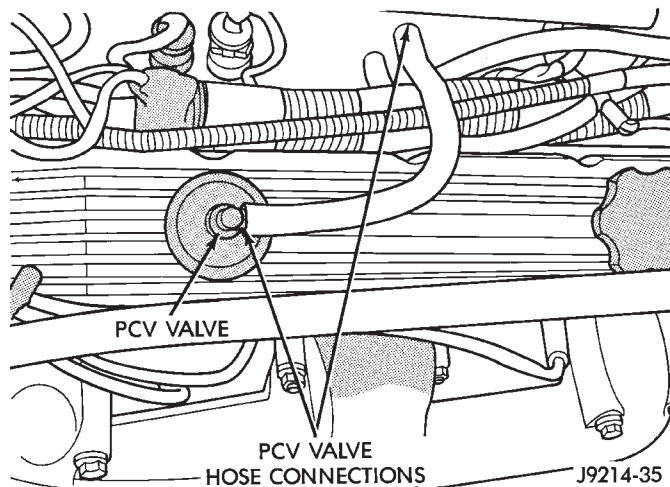

Fig. 26 PCV Valve Hose Connections—5.2L/5.9L Engines—Typical
(6) Verify that generator output wire, generator connector and ground wire are firmly connected to the generator.
(7) Inspect the system body grounds for loose or dirty connections. Refer to Group 8, Wiring for ground locations.
(8) Verify positive crankcase ventilation (PCV) valve operation. Refer to Group 25, Emission Control System for additional information. Verify PCV valve hose is firmly connected to PCV valve and manifold (Fig. 26).